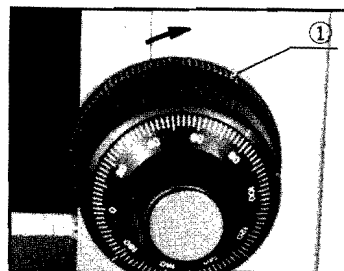

Fig. 6
A tension adjustment ring ① is provided next to the right hand coarse adjustment knob. With this device the tension of the coarse adjustment is freely adjustable for either heavy or light movement, depending on operator preference. (Fig. 6)
- ★ Be careful not to rotate the right and left coarse adjustment knobs in the opposite directions simultaneously. (Fig. 6)